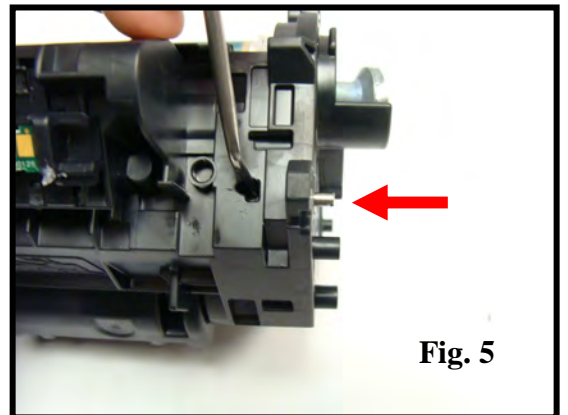

Fig. 5
5. Use a small screw driver and insert it into the drill hole to push the pin out of the cartridge (Fig. 5). Once the pin is partially out of the cartridge body, use pliers to fully remove it.